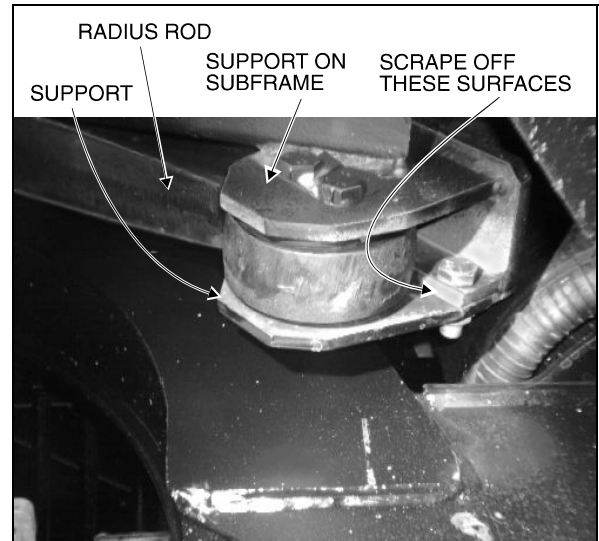

FIGURE 2
2. Scrape off protective coating down to bare metal on both contacting surfaces (support and support on subframe (Fig. 2)).